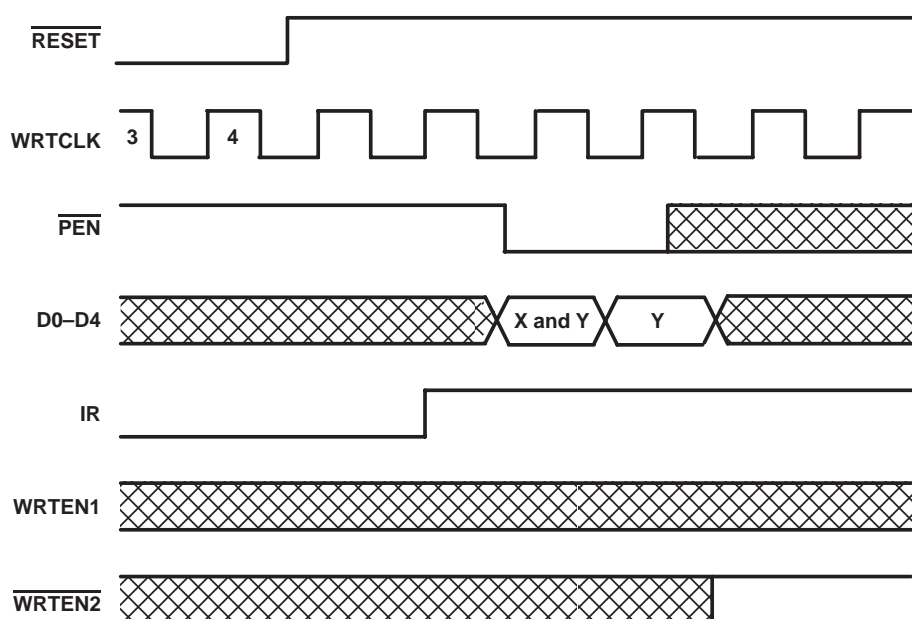

Figure 4. Programming X and Y Separately
Program enable (\overline{PEN}) should be held high throughout the reset cycle. \overline{PEN} can be brought low only when IR is high and WRTCLK is low. On the following low-to-high transition of WRTCLK, the binary value on D0–D4 is stored as the AE offset value (X) and the AF offset value (Y). Holding \overline{PEN} low for another low-to-high transition of WRTCLK reprograms Y to the binary value on D0–D4 at the time of the second WRTCLK low-to-high transition. When the offsets are being programmed, writes to the FIFO memory are disabled regardless of the state of the write enables (WRTEN1, WRTEN2). A maximum value of 31 can be programmed for either X or Y (see Figure 4). To use the default values of $X = Y = 8$, \overline{PEN} must be held high.